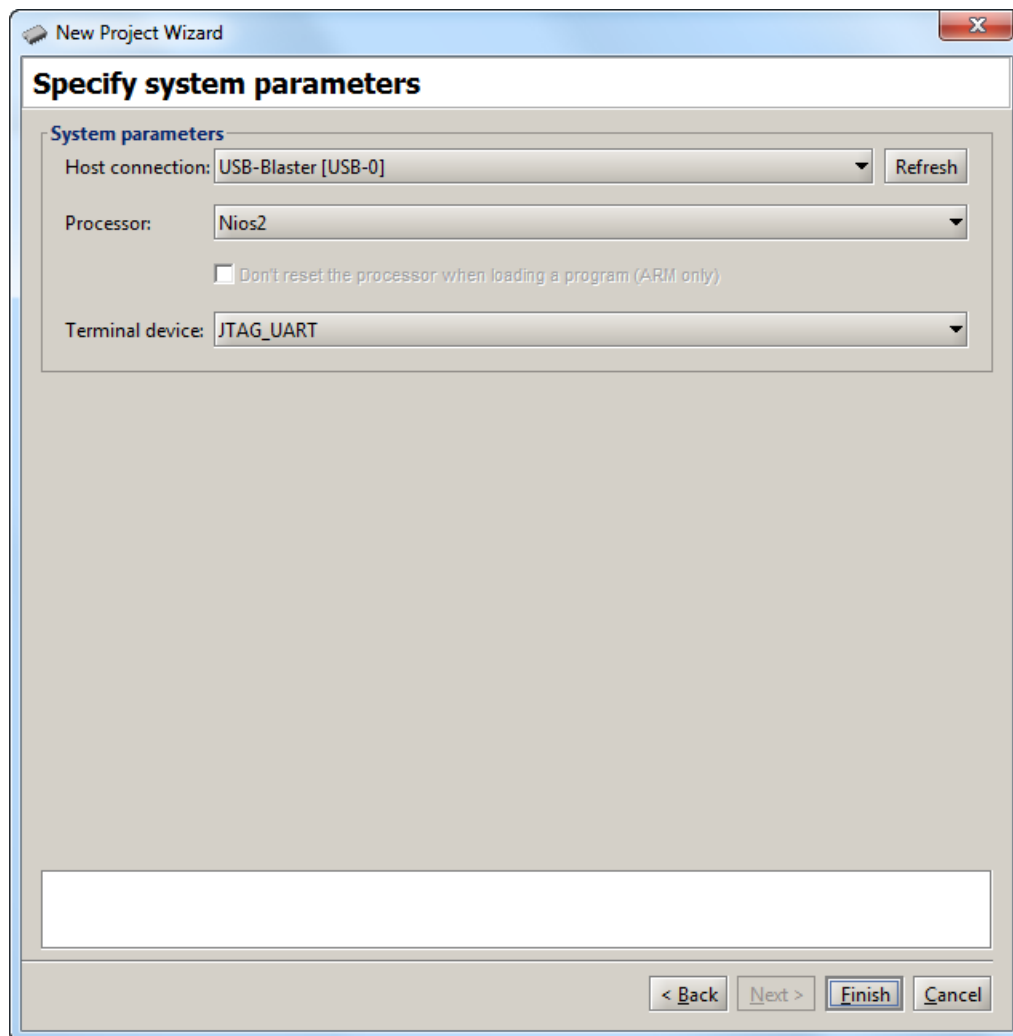

Figure 30. Specify the system parameters.
7. In the window in Figure 30, ensure that the Host Connection is set to *USB-Blaster*, the Processor is set to *nios2_processor* and the Terminal Device is set to *jtag_uart*. Click Next.